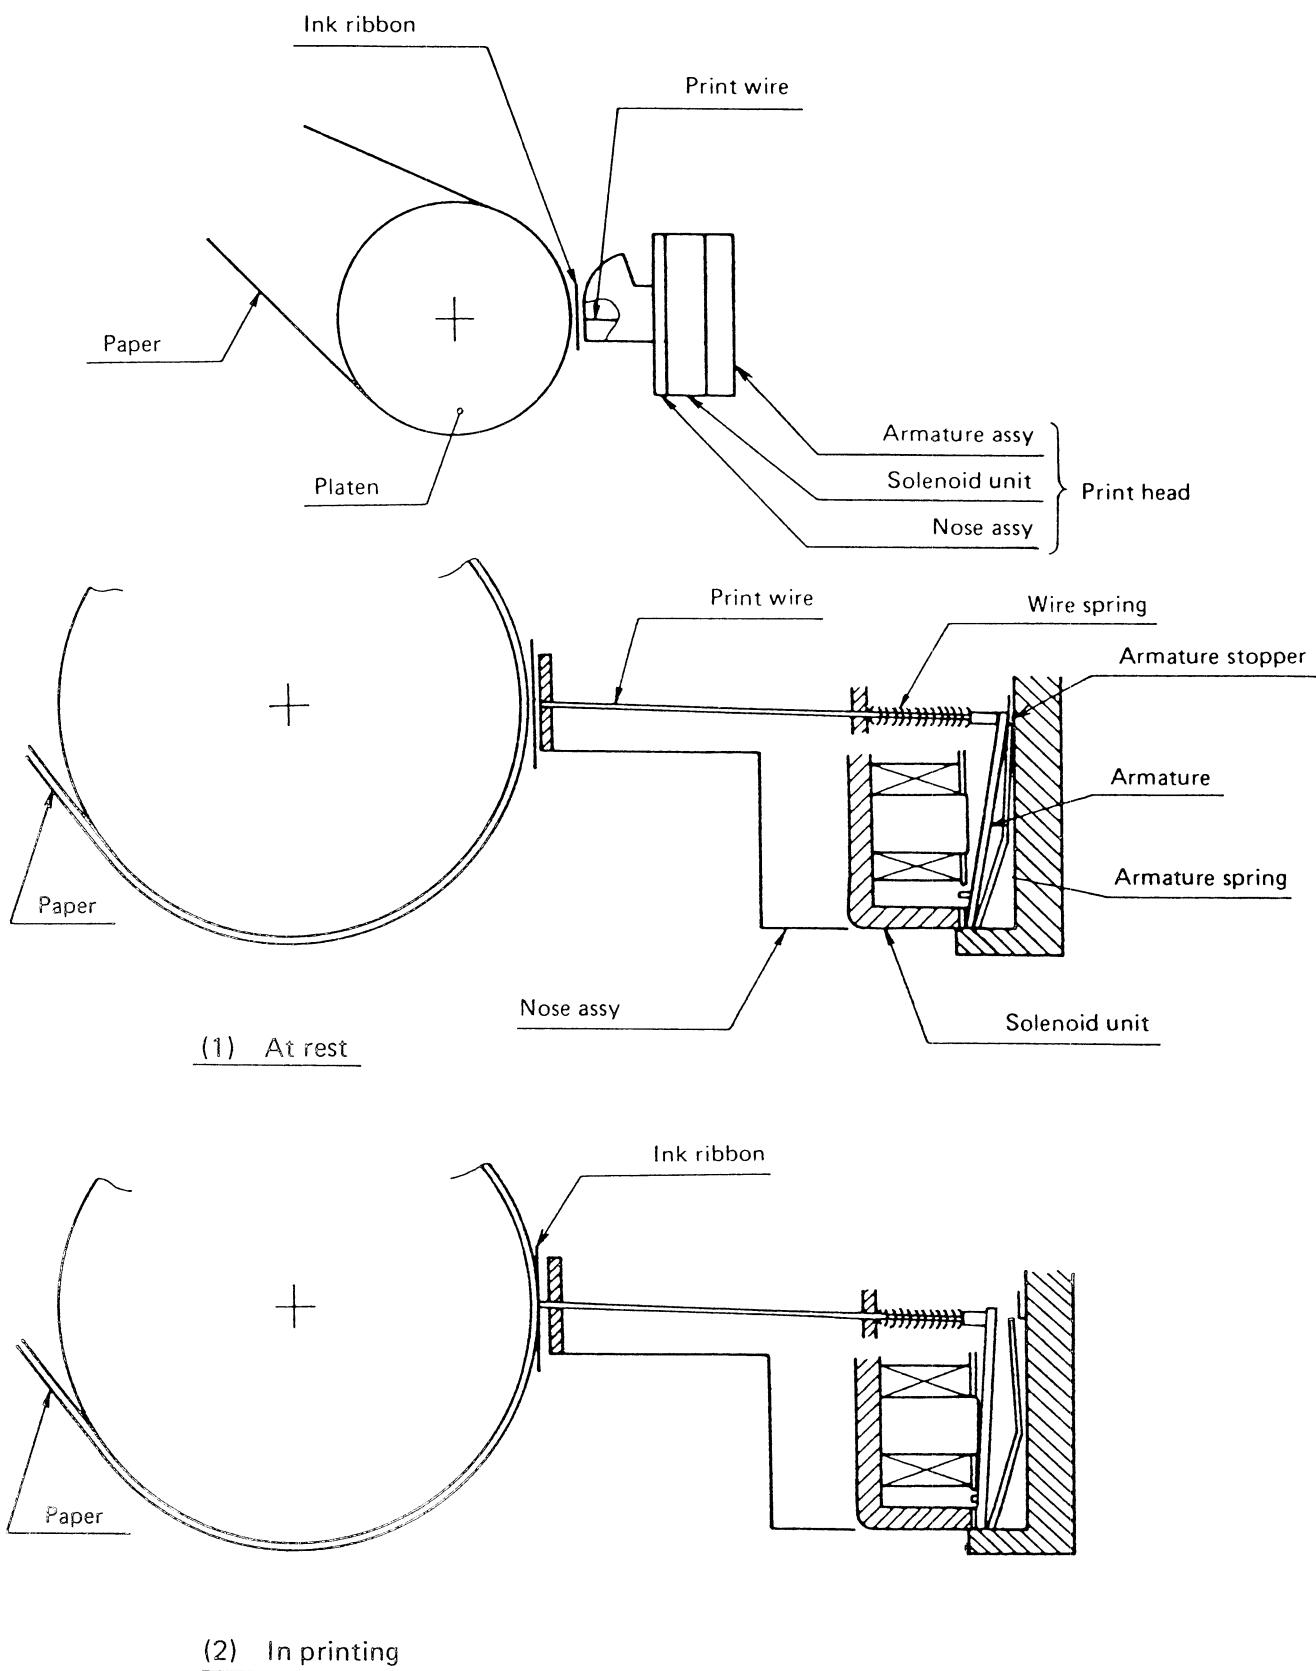

Fig. 1
#### **(1) Operation of print head (see Fig. 1)**